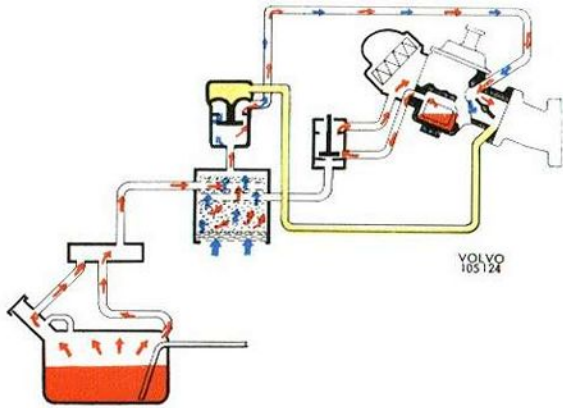
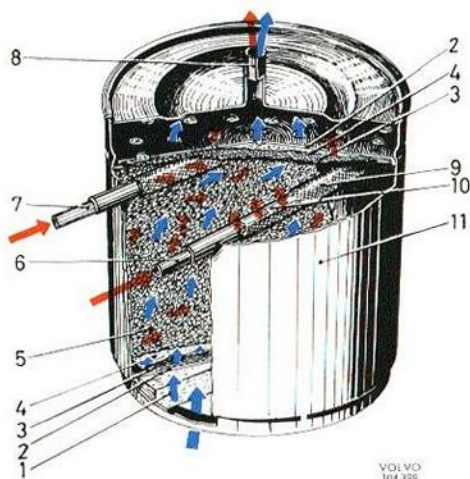
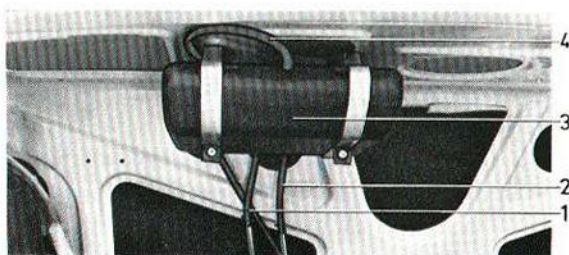
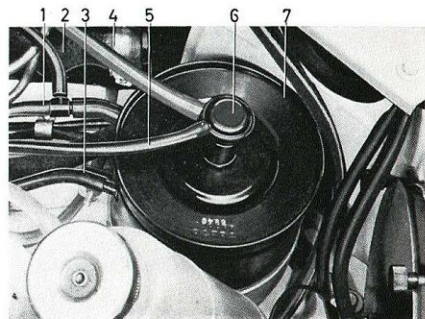

Fig. 2-95. Gas evaporative control system with control rod at running
Fig. 2-96. Venting filter
Fig. 2-98. Expansion tank
Fig. 2-99. Venting filter, fitted
Vehicles for the Canadian market are fitted with a gas evaporite control system which prevents fuel fumes from being released out into the atmosphere. Its function is outlined in Fig. 2-94 and Fig. 2-95. Fuel fumes formed in the fuel tank, especially during warm weather, are led to the expansion tank (2) and from there to the venting filter (3) where the fumes are absorbed by active carbon. On the 140 model, the expansion tank is located in the luggage compartment, see Fig. 2-98. (On the 145, it is placed on the right-hand side in the cargo space.) The venting filter (Fig. 2-96) is located in the engine compartment on the right-hand side, see Fig. 2-99. Fuel fumes from the floatchamber (10, Fig. 2-94) are led via the valve (6) to the venting filter when the engine has been switched off or during idling. Throttling shuts off the connection between the venting filter and the floatchamber so that the
fumes travel via the valve to the air cleaner. (Fig. 2-95).
At high vacuum, the vacuum valve is kept closed (Fig. 2-94). When the vacuum drops the valve opens and air is drawn through the cannister and vacuum valve to the carburetor venturi. Fuel fumes stored in the venting filter follow the air into the engine and take part in the combustion (Fig. 2-95). The valve (6), which is known as the hot start valve, is to be found on all vehicles with twin carburetors. The difference between a valve used on a vehicle with or without a gas evaporative system is that in the latter case there is no hose connected to the outlet and the fumes are led directly out into the atmosphere when the engine is switched off or idling.